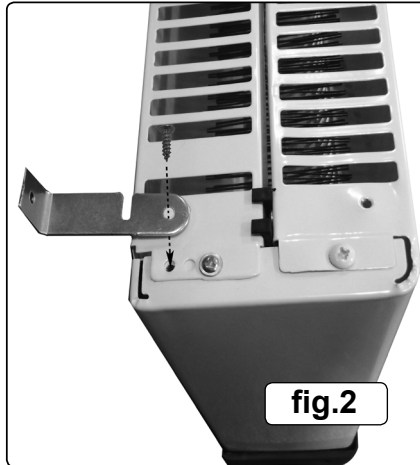
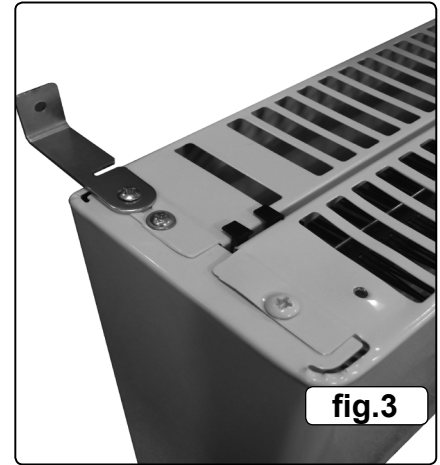

fig.2
fig.3
- Sort the wall mounting brackets into two pairs having a right hand and a left hand bracket in each pair. Take one pair of brackets and mount them to the underside of the heater using self tapping screws as shown in fig.2 and fig.3. Each bracket should be fixed in the pre-drilled holes provided.